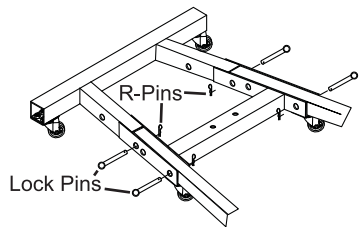

Figure 5
5. Lock Legs in place using the Lock Pins (19). To insert the R-Pins (20), lift up on front of Base until holes line up. After all four Lock Pins are inserted, insert one R-Pin through small hole at end of each Lock Pin until it snaps into place. See Figure 5.